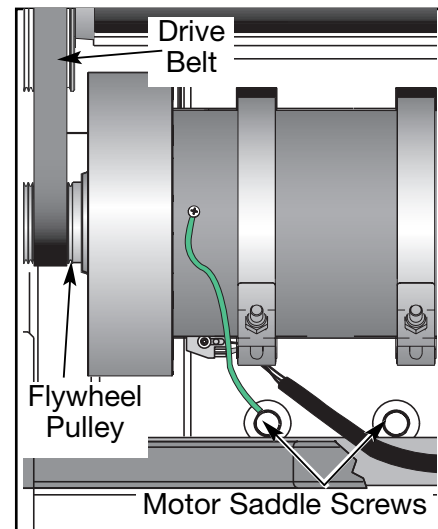

Figure 9
- A. Using a 1/2" socket wrench, loosen but do not remove the two screws on the motor saddle. See Figure 9.
- A. If you are changing the drive belt, slip the drive belt around the flywheel pulley and off the motor. See Figure 9.
- A. Using a 1/2" socket wrench, tighten the two screws on the motor saddle. See Figure 9.